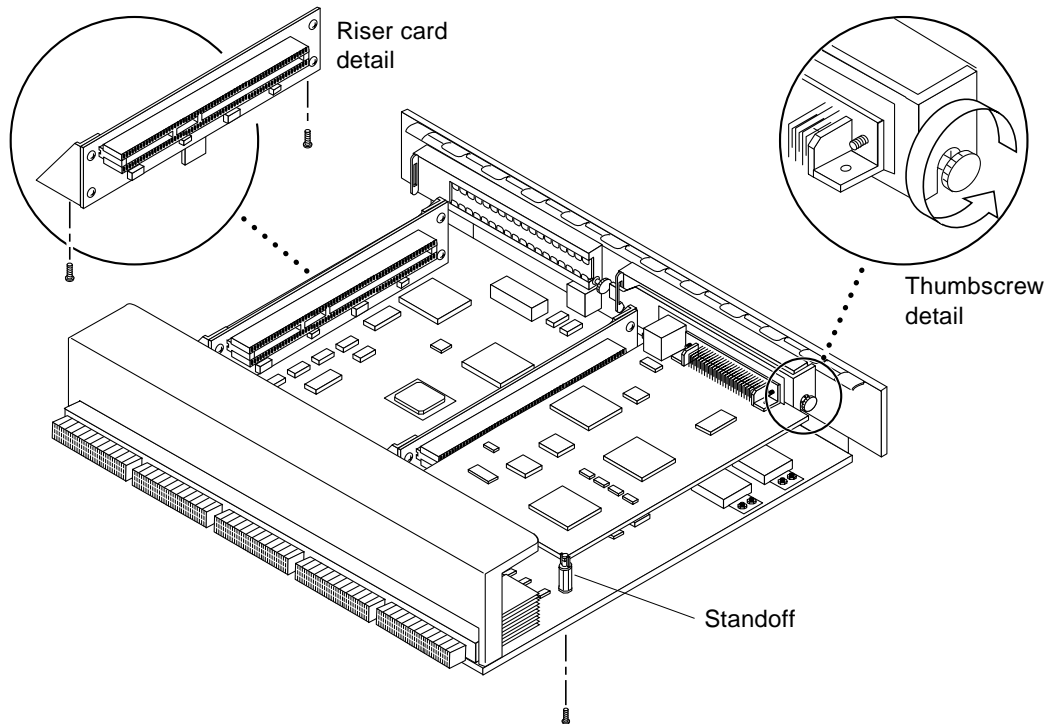

FIGURE 4-20 PCI and Riser Card Removal
2. On the noncomponent side of the I/O+ board, loosen the locking standoff for the corresponding PCI card that is to be removed (FIGURE 4-20).
3. Loosen and then remove the thumbscrew on the component side of the I/O+ board next to the external PCI card connector (FIGURE 4-20).
3. Remove two screws securing the existing riser card to the PCI+ I/O board (FIGURE 4-20 on page 4-25) and remove the riser card.